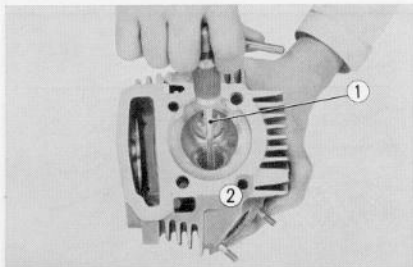

Fig. 3.21 ① Valve guide reamer ② Cylinder head
If the valve guide inside diameter is beyond serviceable limits, it may be repaired by using a reamer ① and replacing the valve with one of an oversize. (Fig. 3.21)